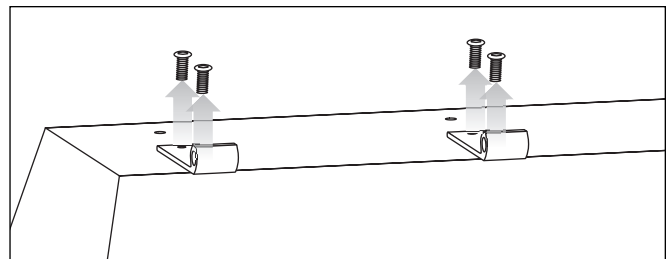

Figure 11. Removing the Script i cabinet brackets.
- 7 Using a 1/8" Allen tool, remove 4 screws (2 each) from the cabinet brackets (see figure 11).